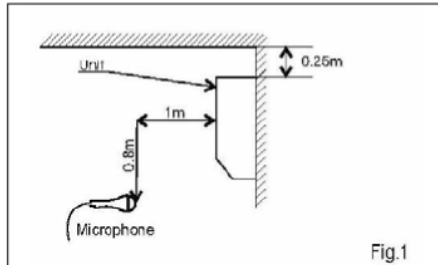

Figure 1. Wall Mounted
6.2 Soud Pressure Level Spectrum (Measured as Figure 1)